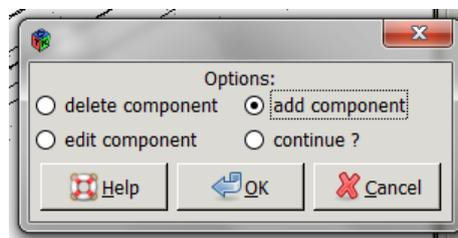

Figure 8
Step 8: A pop-up box will then appear asking which action you wish to take, click >add component then click >ok. (figure 8)